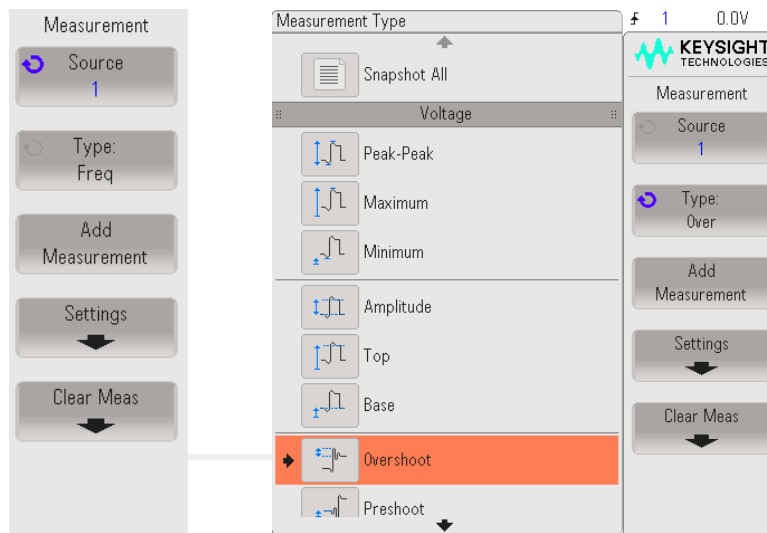

Fig. 2: (Left): Measurement menu (Right): Different measurement type
1. Push *Meas* button in the Measure section of the DSO. Measurement Menu will appear on the right side of the screen (Fig. 2: Left).
3. Select the measurement type from *Type* submenu (Fig. 2: right). Use the *entry dial* to highlight and then push the dial to add a measurement.